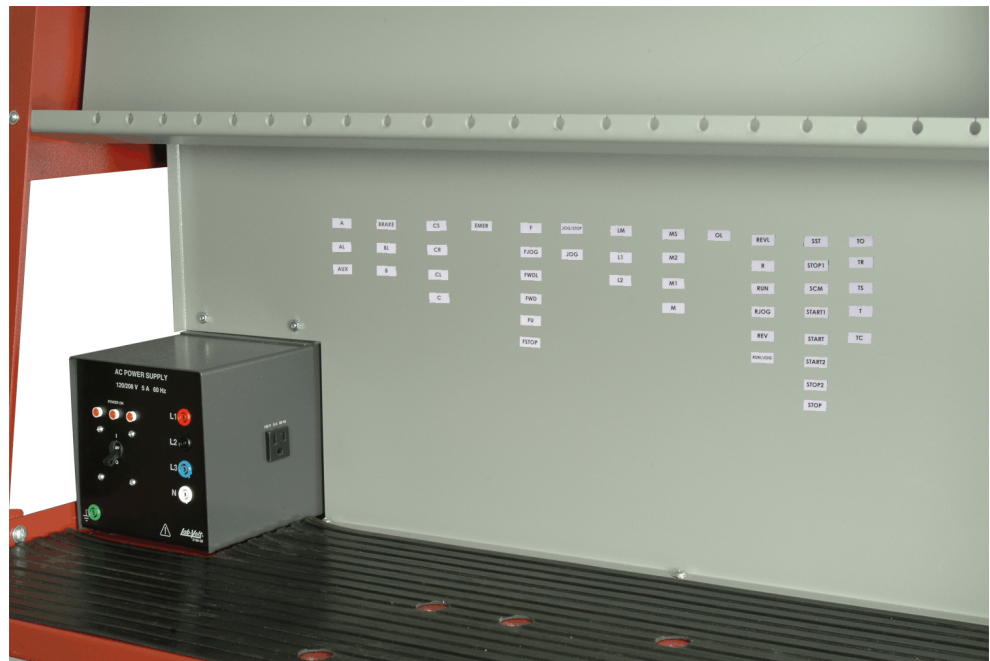

Figure D-6. Store the magnetic labels on the vertical surface of the Mobile Workstation.
**Note:** For storing purposes, arrange the magnetic labels in alphabetic order on the vertical surface of the Mobile Workstation as shown in Figure D-6.